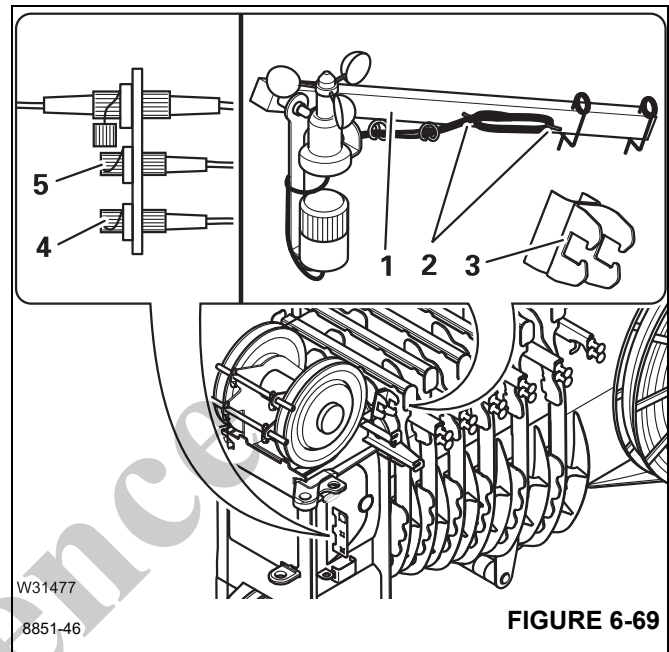

FIGURE 6-69
- Remove the plug and close the sockets (4), (Figure 6-69) and (5), (Figure 6-69) with the protective caps.
- Wind the cables onto the holders (2), (Figure 6-69).
- Remove the rod (1), (Figure 6-69) from the holder (3), (Figure 6-69).
- For transportation, fasten the retaining pins to the rod (1).